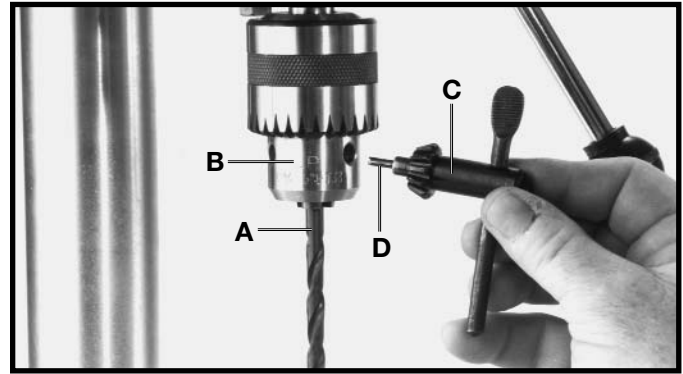

Fig. 29
1. Insert smooth end of drill bit (A) Fig. 29, into chuck (B), as far as it will go, and then back the bit out 1/16", or up to the flutes for small bits.
2. Make certain that the drill bit (A) Fig. 29, is centered in the chuck (B) before tightening the chuck with the key (C).
3. Turn the chuck key (C) Fig. 29, clockwise to tighten and counterclockwise to loosen the chuck jaws.
5. **⚠ CAUTION MAKE SURE** chuck key (C) Fig. 29, is removed from chuck before starting drill press. Your chuck key (C) is equipped with a self-ejecting pin (D) which helps minimize the hazard of the key being left in the chuck.